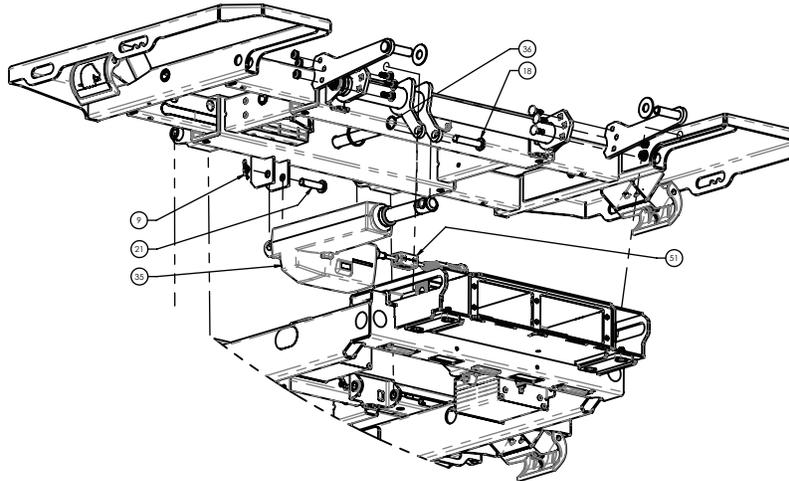

Figure 31 – Foot actuator replacement
7. Using needle nose pliers, remove the rue ring retaining clip (9) from the head end clevis pin (21) that attaches the actuator (35) to the litter weldment (Figure 31).
8. Using needle nose pliers, remove the circle ring retaining ring (36) from the foot end clevis pin (18) that attaches the actuator (35) to the thigh weldment (Figure 31).
9. While supporting the actuator (35) with one hand, remove the head end clevis pin (21) and the foot end clevis pin (18) and then lower the actuator down (Figure 31).
10. Using a small flat screwdriver, release the power/sensor cable quick connect (51) and disconnect the cable from the actuator (35) (Figure 31). When re-connecting the cables, fully seat and lock the cable quick connector retaining ring.